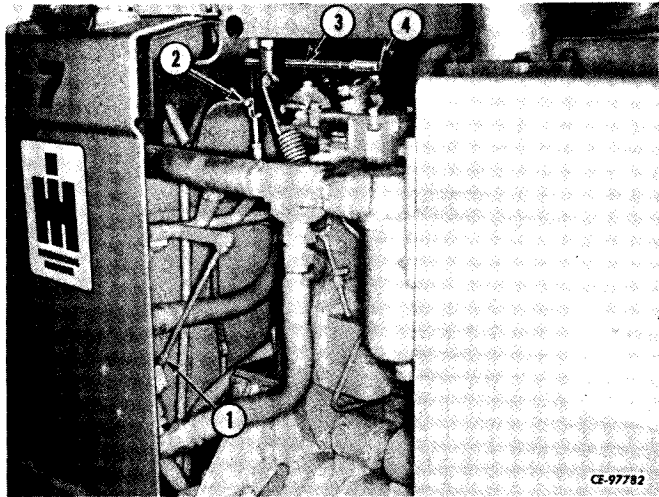

Figure 2-11
Disconnect accelerator linkage by removing cotter pin and clevis pin (1, 2, Fig. 2-11). Disconnect shut down linkage (4) and remove knob from end of shut down rod (3). Pull rod out through dash panel.
Connect accelerator linkage by installing clevis and cotter pins (1, 2, Fig. 2-11). Install shut down rod (3) through dash panel and tighten nut (4) connecting rod to engine shut down lever.